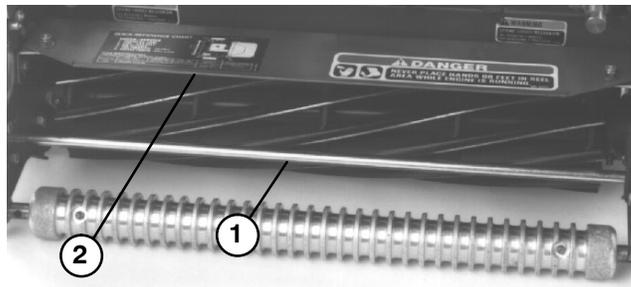

Figure 20
2. Measure distance from the top of the front support rod to the front lip of the shield at each end of cutting unit (Fig. 20).